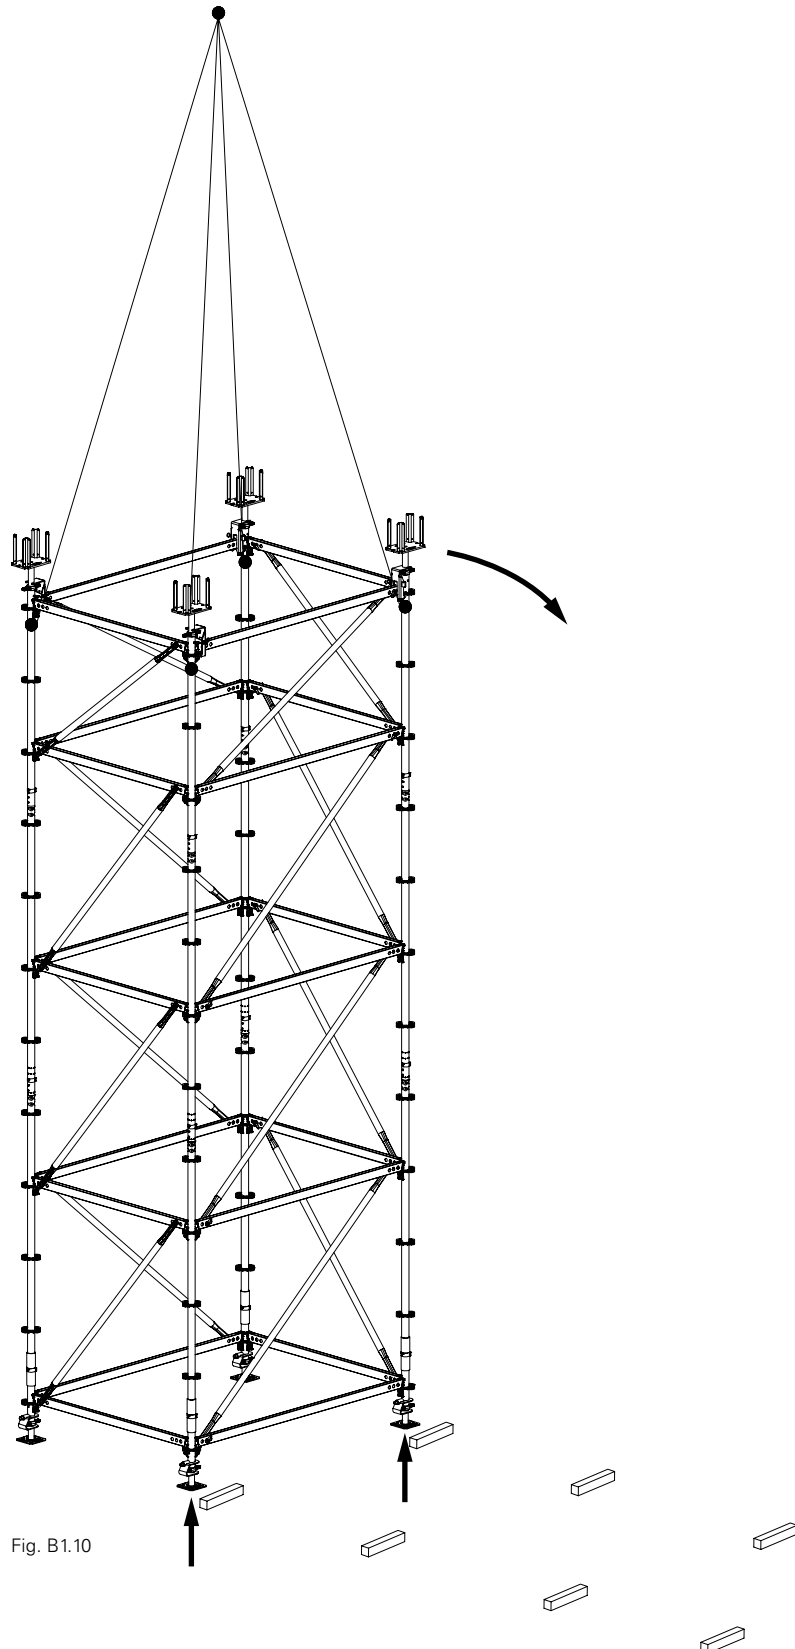

Fig. B1.10
1. Place four chains or textile lifting gear, e.g. round slings, around the bottom of the rosett node fitted with horizontal ledgers and attach to the crane. (Fig. B1.10)